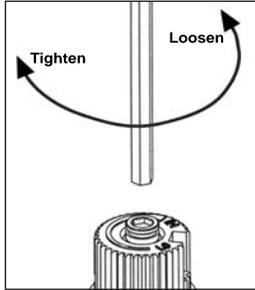

Figure 16: Removing Valve Screw
- b) Remove the conversion screw using a 5/32 inch or 4mm Allen key (see Figure 16).